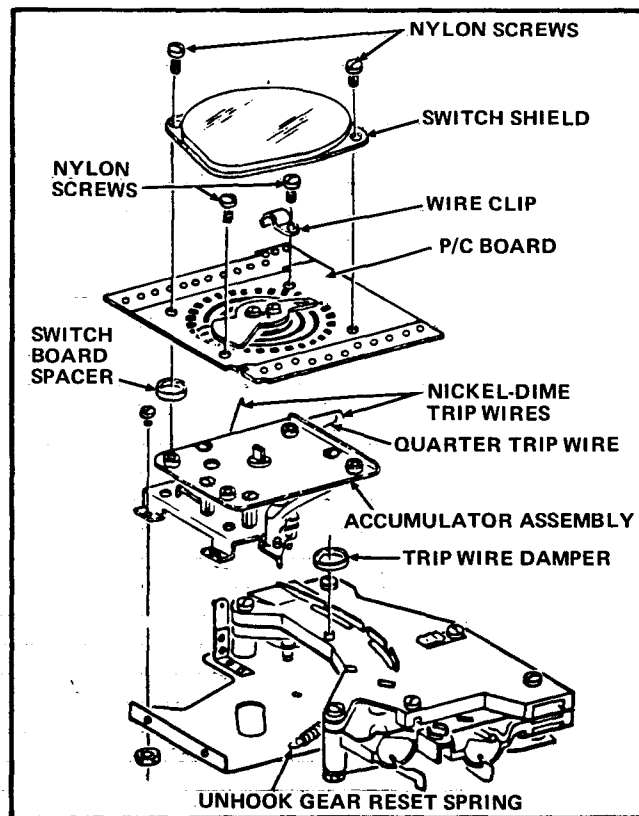

FIGURE 2
2. Remove the two Nylon Screws which attach the Switch Shield and remove the Switch Shield. See Figure 2. Save and store the Switch Shield for future use.